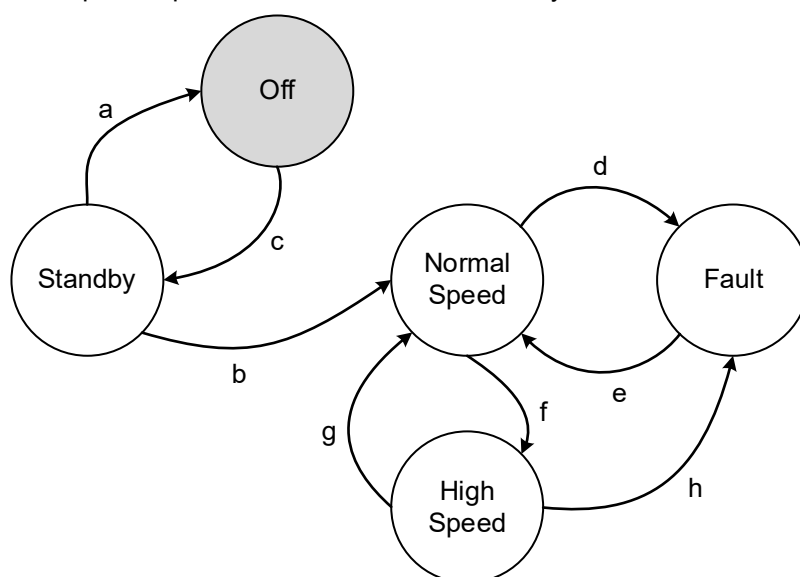
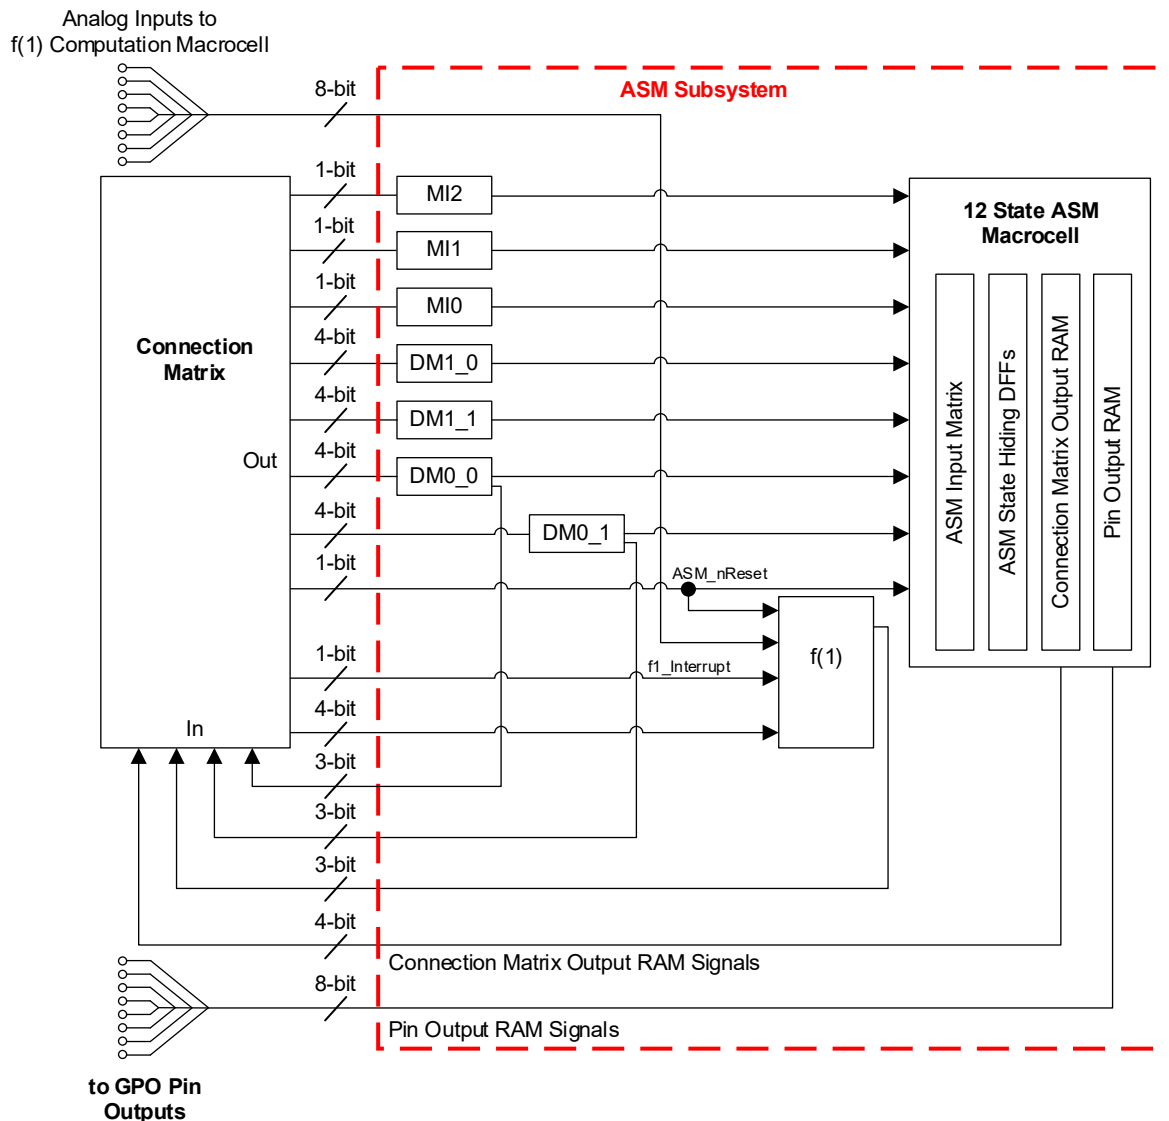

Figure 89. Asynchronous State Machine State Transitions
Figure 90. Connection Matrix to ASM Subsystem
The Asynchronous State Machine (ASM) Subsystem is designed to allow the user to create state machines with between 2 to 12 states. The user has flexibility to define the available states, the available state transitions, and the input signals (a, b, c ...) that will cause transitions from one state to another state, as shown in Figure 89.
- Dynamic Memory (DM) Macrocells – section 16 Dynamic Memory Macrocell.
- f(1) Computation Macrocell – section 17 f\(1\) Computation Macrocell.
- Matrix Interface (MI) Macrocells section 18 Matrix Interface Macrocells.
The ASM Subsystem has a total of 25 digital input signal lines, as shown in Figure 90, which all come from the Connection Matrix outputs. Of these 25 digital input signals, 3 are user selectable inputs going directly from the Connection Matrix to the three Matrix Interface (MI) macrocells. There are a total of 16 input signals that go to the DMx_x macrocell, four per macrocell. There is 1 ASM_nReset input that is for driving a state transition in both the ASM macrocell and the f(1) Computation Macrocell to an Initial/Reset state. It is possible to use one macrocell only (MI or DM) for state-to-state transitions. There are 4 digital input signals coming from the Connection Matrix to the f(1) Computation Macrocell. There is also 1 dedicated Interrupt input signal to the f(1) Computation Macrocell that will halt any active operations and transfer control back to the ASM macrocell.
The ASM Subsystem has a total of 21 digital output signal lines, as shown in Figure 90. There are a total of 4 output signals which go to the Connections Matrix inputs, and from there can be routed to other internal macrocells or pins. The 4 outputs are user defined for each of the possible 12 states. There are a total of 8 output signals which go directly to the 8 GPOs. The 8 outputs are user defined for each of the possible 12 states. Each of the three macrocells, DM0_0, DM0_1 and f(1) have three output signals that go to the Connection Matrix.
The Go Configure Software Hub development tools support user designs for the ASM Subsystem at both the physical level and logic level. Figure 89 is a representation of the user design at the logical level, and Figure 90 shows the physical resources inside the various macrocells in the ASM Subsystem. To best utilize this